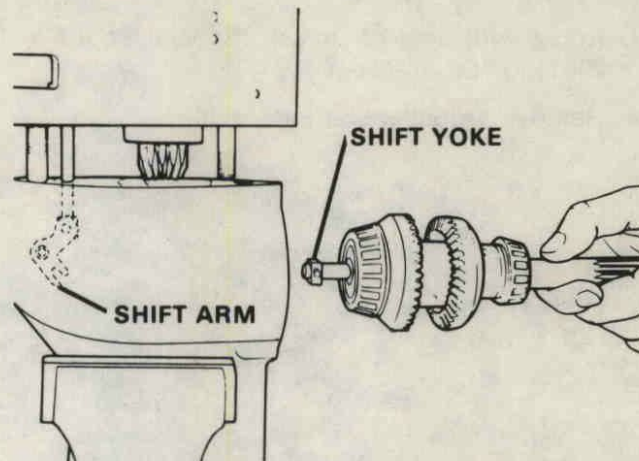

Figure 71. Installing Propeller Shaft Assembly.
G. Slide propeller shaft assembly into lower gear housing until ears on shift yoke engage with forks on shift arm. Set upper housing and pinion shaft in place on lower housing. Figure 71.